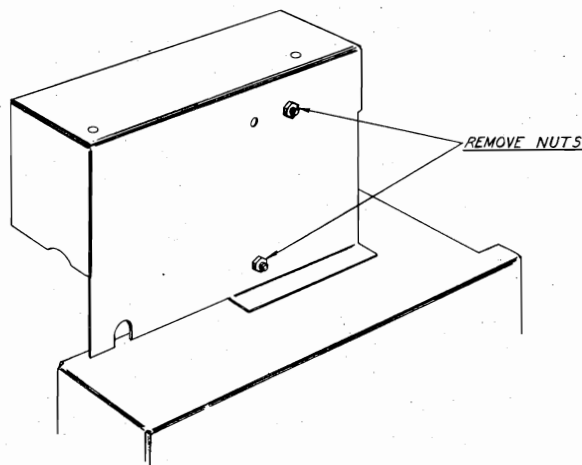

Figure 2
5. Two nuts fastening clock to bracket (Fig. 2).